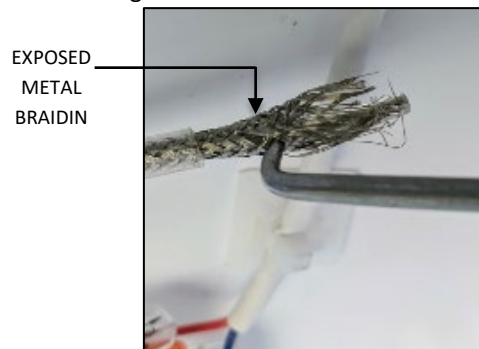
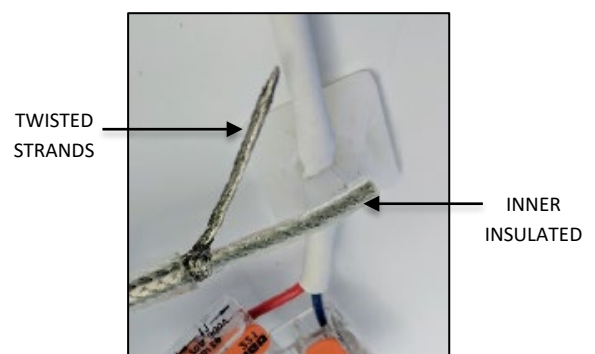

FIG. 17
FIG. 18
- Using a small pointed object, begin unweaving the exposed metal braiding as shown in FIG. 17 below. Position the unwoven metal strands on one side of the inner insulated wire and twist the individual strands together as shown in FIG. 18 below.